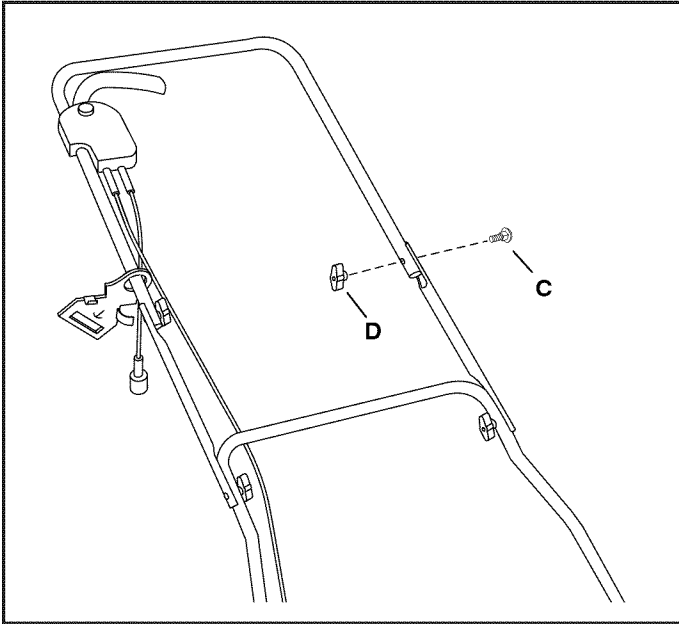

FIGURE 5
STEP 5: (SEE FIGURE 5)
- Attach the upper handle tube to the middle handle tubes using two carriage bolts (C) and wing knobs (D). Keep the cord holder above the carriage bolt and wing knob while assembling.